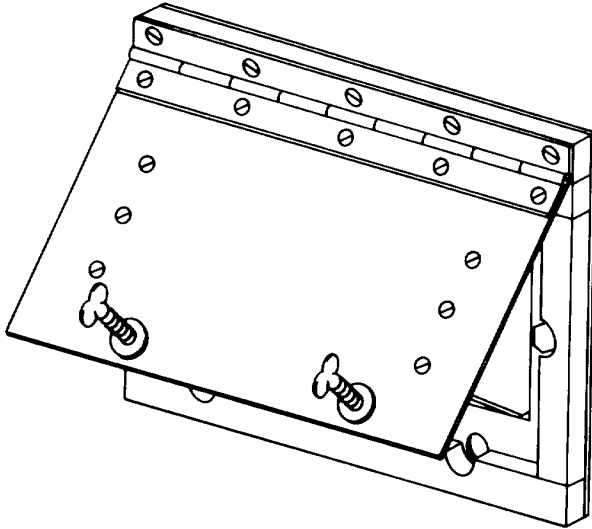

Figure 2-2. Cable Access Assembly
- (1) Remove the external antenna distribution and digital clock interconnecting cables from the storage cabinets.
- (2) Connect the cables to panel connectors of the cable access assembly, figure 2-2, of the AN/TSQ-78 and to the corresponding connectors of the cable access assemblies of the other centrals as shown in FO-1. The
2-10. PRELIMINARY CHECKS AND SERVICES. To ensure that the equipment is ready for operation following installation of the equipment, check the cable connections (figure 2-2 and FO-1) and perform the